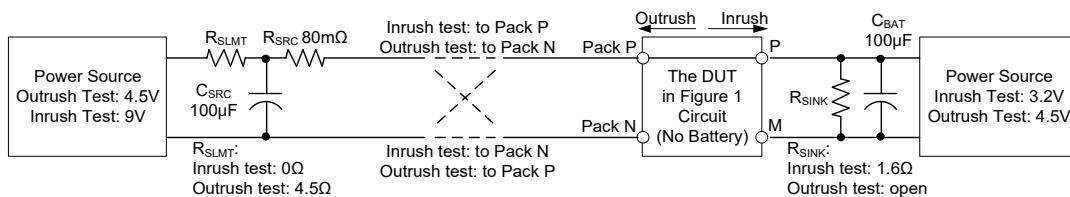

Figure 2. Test Set-Up for Pack P to Pack N Attachment Inrush/Outrush
5. The device is tested after being installed on the circuit board in Figure 1. Connect a 3.2V supply and 2A sinking resistor R_{SINK} as showed in Figure 2 to the P and M for inrush test. Clip a 4.5V 5A supply for outrush test.